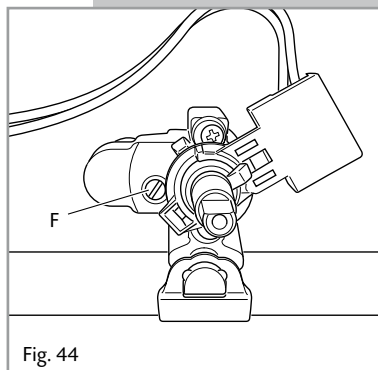

Fig. 44
- With a thin screwdriver turn the screw F until adjustment is correct (fig. 44).